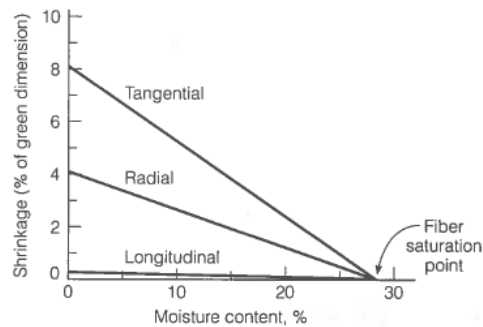

Figure 1. Relation between shrinkage and moisture.
a) A stud had dimensions of 38 mm x 89 mm x 2438 mm and a moisture content of 150% when it was prepared. After seasoning, the moisture content was reduced to 7%. If the tangential, radial and longitudinal directions of the grains are on the same order as the dimensions indicated above, what are the dimensions of the seasoned stud if the moisture-shrinkage relation follows Figure 1. Assume the FSP is 28%.
c) A.5.4.6 in O86-14 offers a generalized shrinkage formula in lieu of the specific data given in Figure 1 of this assignment